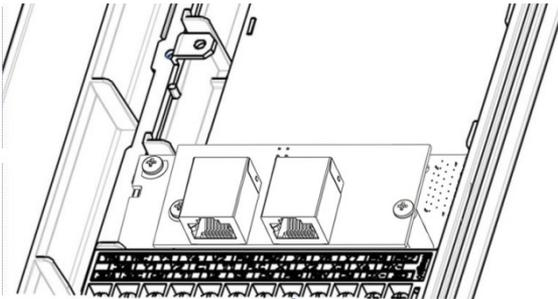

Figure 8: Interface Card Mounting Completed
4. Secure the interface card to the control board PCB by first tightening the captive M3 x 25mm screw into the inverter standoff located at the lower-right hand corner of the interface card. Next, install and tighten the included M3 x 6mm screw into the standoff mounting hole located at the upper-left hand corner of the interface card. Refer to Figure 8.